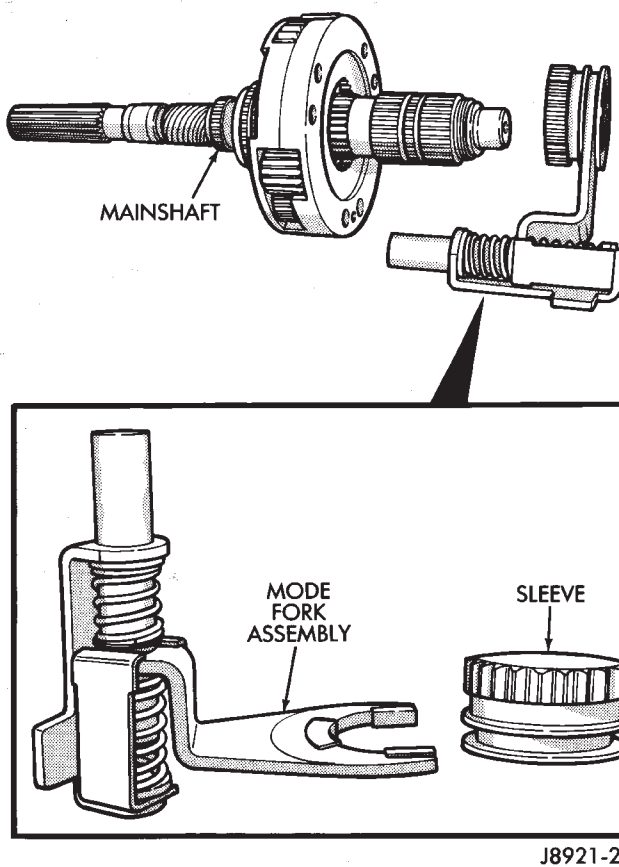

Fig. 26 Mode Fork And Sleeve Removal
(6) Remove mode shift sleeve and mode fork assembly from mainshaft (Fig. 26). Note position of mode sleeve in fork and remove sleeve.